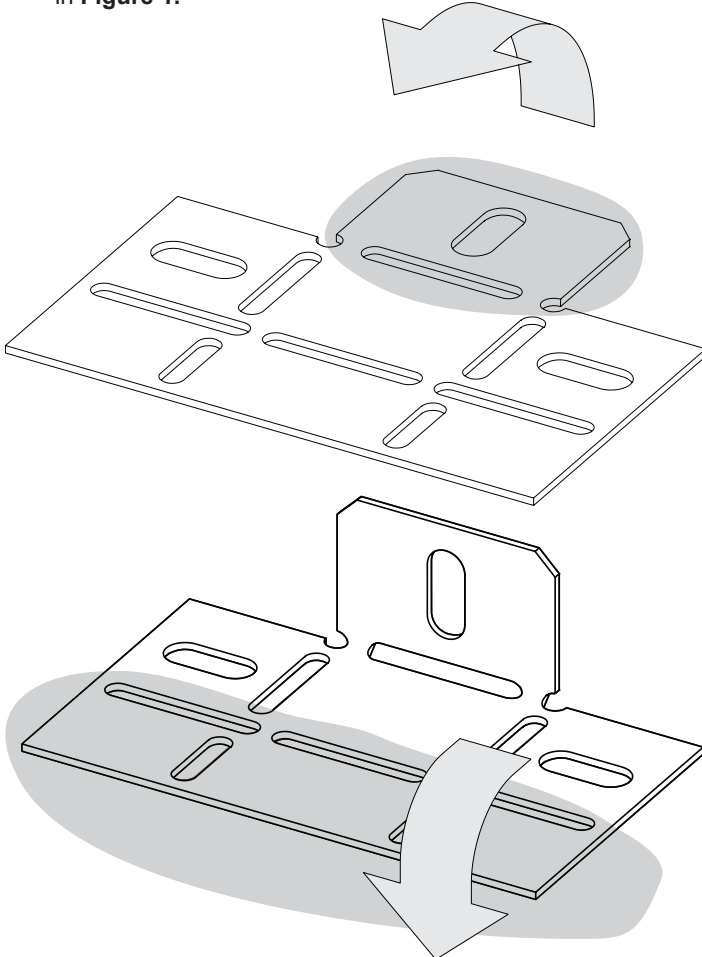

Figure 1 - Style A
- 4a. If you have purchased an Aged, Banded, Traditional or Herringbone style liner kit, bend the upper liner bracket as shown in **Figure 1**.